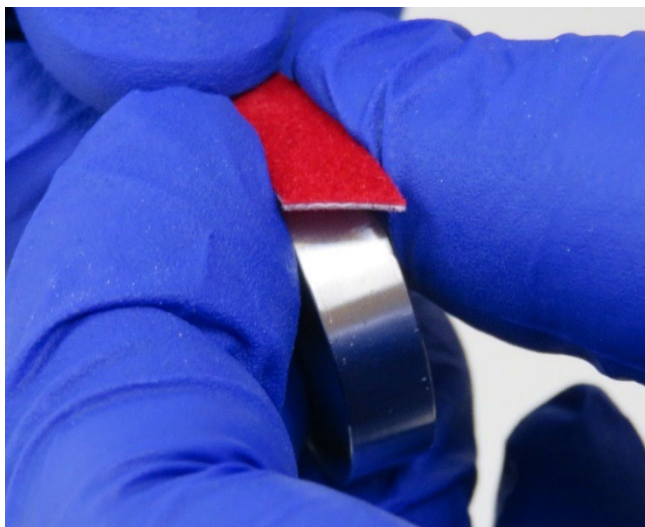

Figure 4: Aligning the Repadding Strip onto the Tool
3. Then, take the end of the cloth and align it with the tool as shown in *Figure 4*.